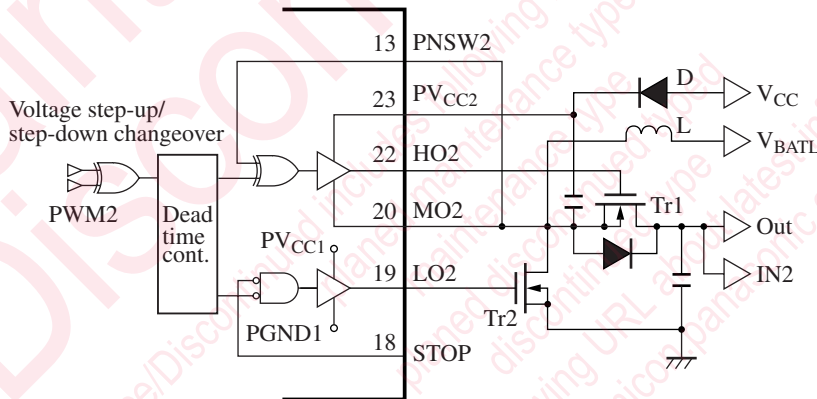

Figure 12
- Ch.2 output part circuit block and the voltage step-up time peripheral circuit example are shown in figure 12.